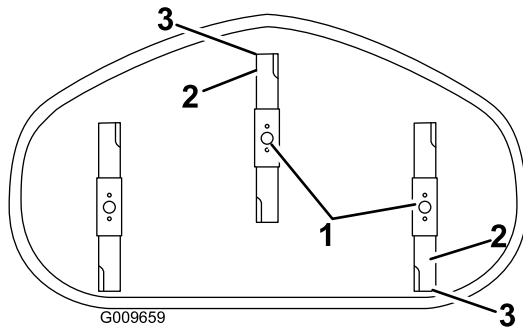

**Figure 60**
4. Carefully rotate the blades so they are facing front to rear (Figure 60 and Figure 61).
5. Measure from the tip of the front blade to the flat surface, and the tip of the rear blade to the flat surface (Figure 60 and Figure 61).
9. After adjustment, check the front-to-rear slope again, continue adjusting the nut until the front blade tip is 1.6 to 7.9 mm (1/16 to 5/16 inch) lower than the rear blade tip (Figure 60 and Figure 61).